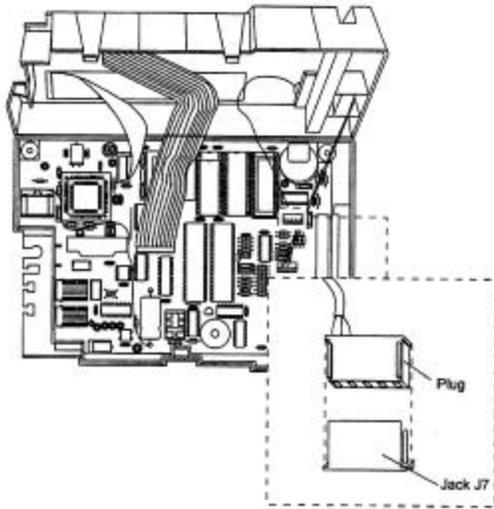

Figure 34: Internal Bar Code Reader Circuit Board Connection
4. Connect the internal bar code reader to the terminal's circuit board. Refer to Figure 34.